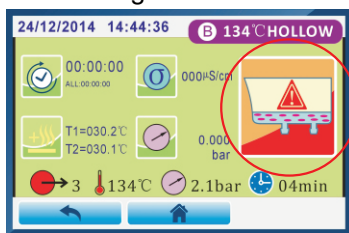

Fig.4.3-5
A)when it show Fig.4.3-5 interface warning,means that the clean-water tank is lack of water. Prompts you to add distilled water, the warning will be eliminated.